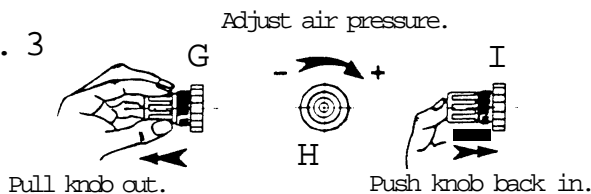

Fig. 4
- 2.2.2. Fix the hose bracket (Fig 4. J) over the slots on the pump body.